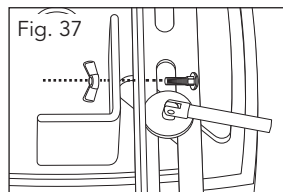

Fig. 37
2. Slacken the thumb screw on the angle piece (31) and position it so that the workpiece can be placed against both the adjustable stop (24) and the angle piece (31) (Fig. 37).